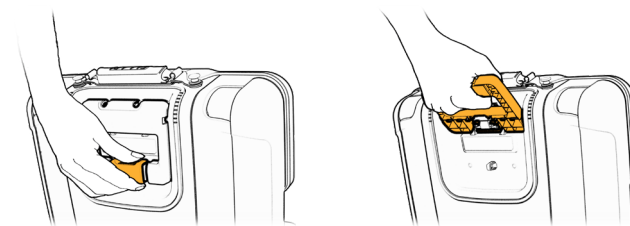

Figure 38
3. Release the secure lever of the back handle (1) and bring the handle to 100-degree position (2). Allow the seat to slide down until it clicks in place (3) (See Figures 38 and 39).